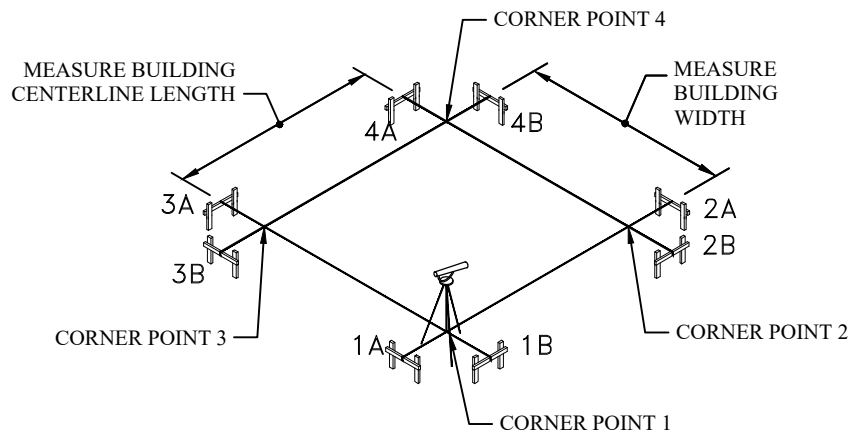

FIGURE 5 - LOCATING CORNER POINT 4
6. TO LOCATE THE FOURTH CORNER POINT (FIGURE 5), USING TWO TAPE MEASURES, FROM CORNER POINT 3 AND CORNER POINT 2, THE SPECIFIED LENGTH AND WIDTH. THE POINT AT WHICH THESE LINES INTERSECT WILL BE CORNER POINT 4.
7. NOW YOU MAY PULL YOUR LAST TWO LINES AND FASTEN THEM TO THE APPROPRIATE BATTER BOARDS. BE SURE TO CHECK THE LEVEL OF YOUR LINES (FIGURE 5).